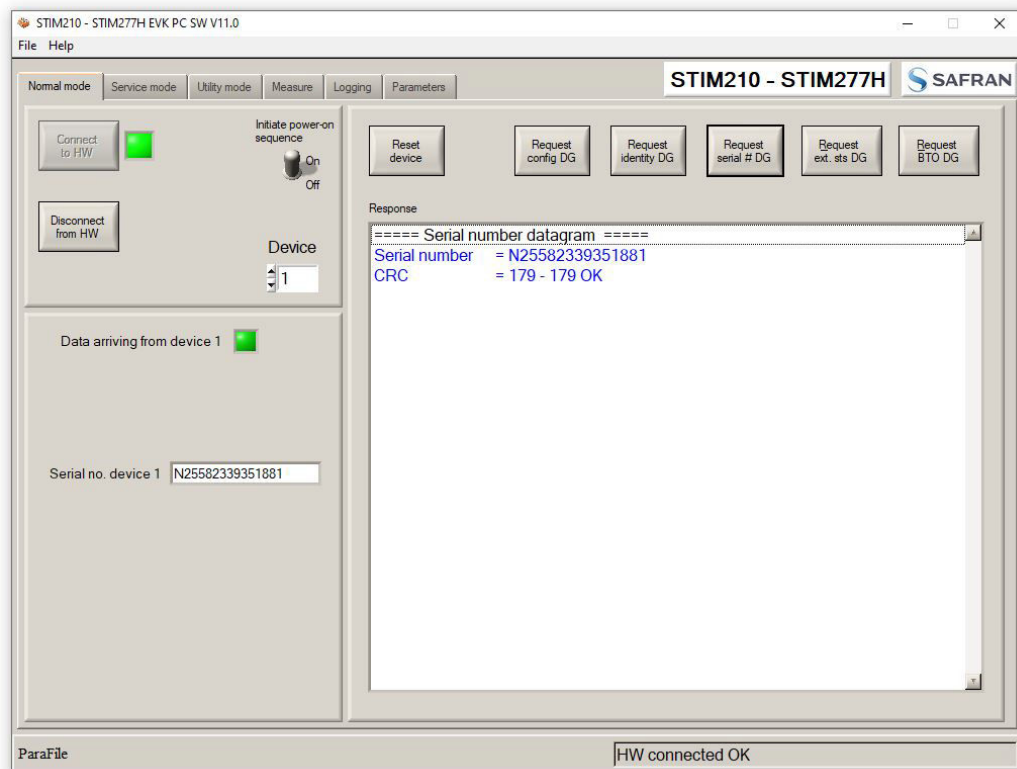

Figure 21: Example of 'Request serial# DG' response
10. A green LED (Data arriving from device n) indicates that data is received from the gyro module(s). Verify the communication to module by clicking on the 'Request serial# DG' button. An example of such a result is shown in Figure 21. The system is now ready for use